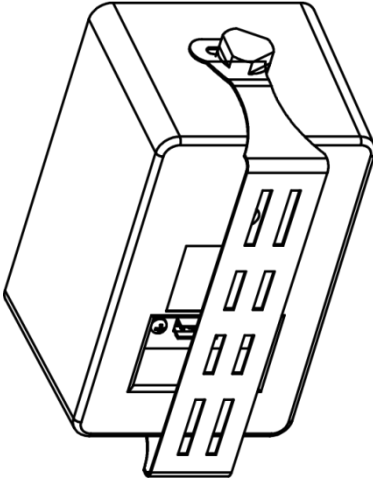

Figure 3: Yarden 4-O with Brackets Connected
4. Align the bracket screw holes (upper and lower) to those on the speaker and screw a knob to each of the holes to secure the speaker to the bracket (see Figure 3).